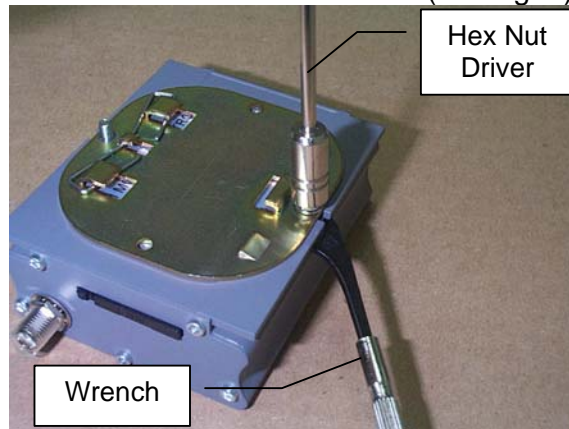

Fig.6
6) Fix the nut by “Hex Nut Driver” or other wrench (See fig. 6).